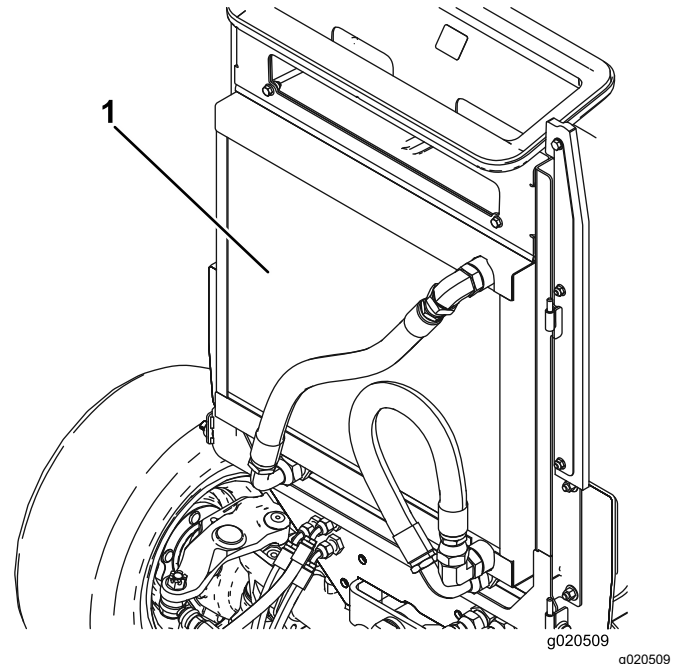

Figure 116
4. Clean both sides of the oil cooler/radiator area (Figure 116) thoroughly with compressed air. Start from the front and blow the debris out toward the back. Then clean from the back side and blow toward the front. Repeat the procedure several times until all chaff and debris is removed.